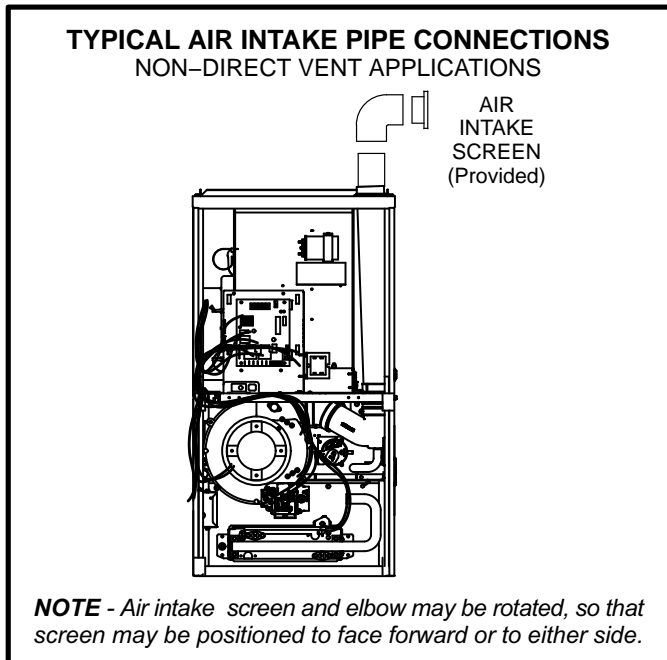

FIGURE 23
- 1 - Use field-provided materials and the factory-provided air intake screen to route the intake piping as shown in figure 23. Maintain a minimum clearance of 3" (76mm) around the air intake opening. The air intake opening (with the protective screen) should always be directed forward, or sideways.